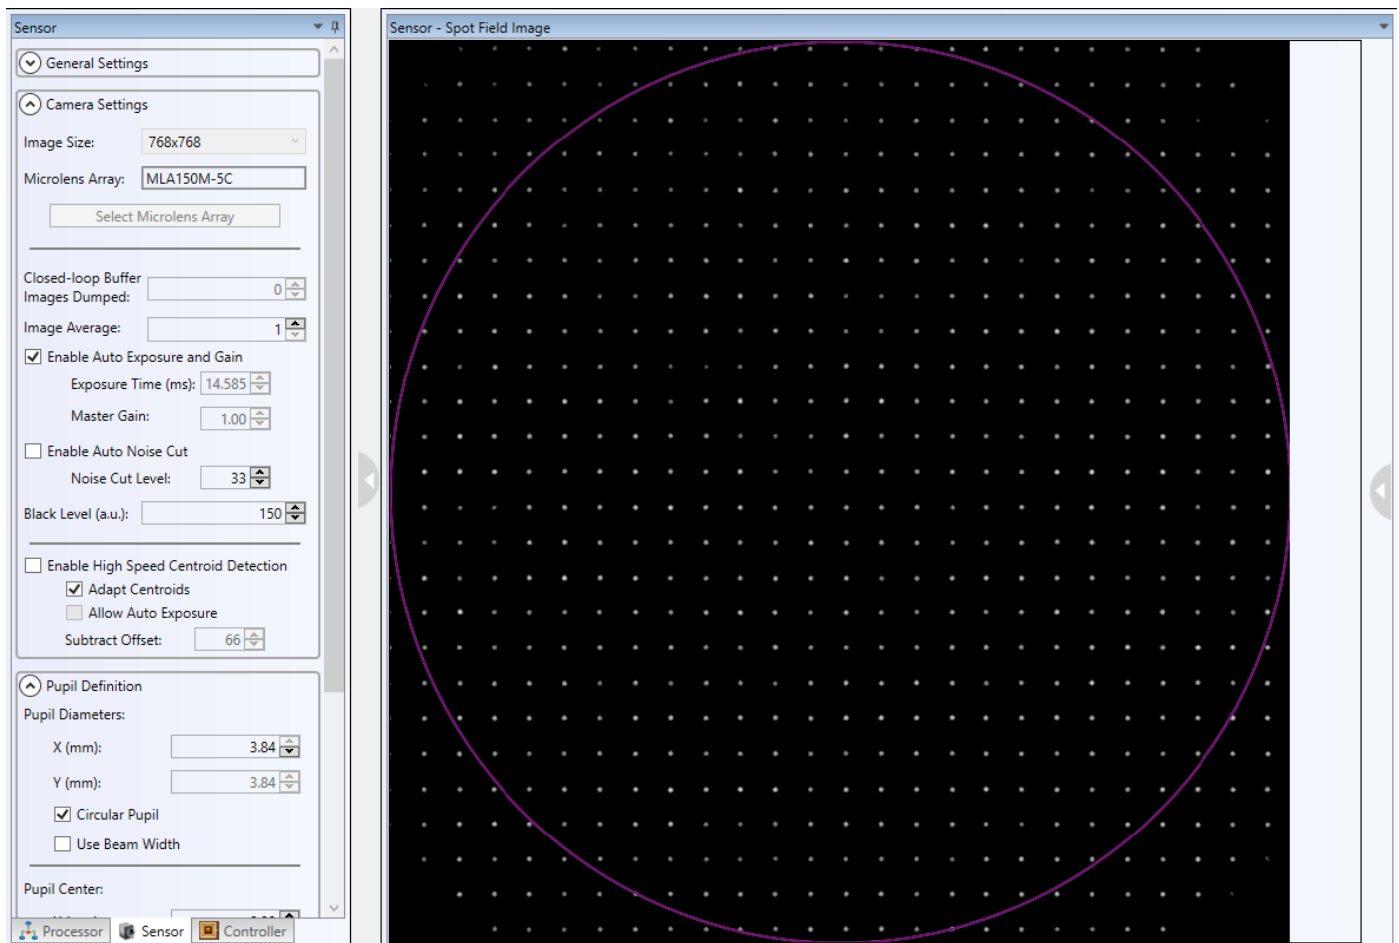

Figure 169 Spot Field created when the incident beam is properly centered on the WFS.
- 2) The pupil diameter can be set large enough to facilitate centering the pupil to the DM projection on the WFS. Note, the WFS is rotated 90° with respect to the plane of the system; therefore, the T-B (top-bottom) direction is the L-R direction on the DM. The width of the DM projection on the WFS in this direction is smaller than the T-B dimension due to the angular alignment of the DM relative to the subassembly-3 and WFS optical path. See Figure 169. Note the diameter 3.88 mm in the figure. This value was used to calculate the pupil diameter at the WFS for a single DM AO Kit including the DMP40 that is equivalent to the 10 mm active diameter at the DM, 3.37 mm as seen in the preceding figure. $3.88 \text{ mm} * (10 \text{ mm} / 11.5 \text{ mm}) = 3.37 \text{ mm}$.
2. The center of the DM should be aligned to the center of the Shack-Hartmann sensor. The active area of the DM (4.4 mm x 4.4 mm) is imaged onto the lens array of the SH sensor via a 1:1 optical relay. Aligning the center of the DM with the center of the SH sensor ensures that the outlying DM actuators affect SH spot positions. The beam should then be centered in sensor array showing a spot field like the one below in Figure 169. Please note that the number of lenses available across the image will depend on the image size, which also impacts speed. The default image size is 768 x 768.